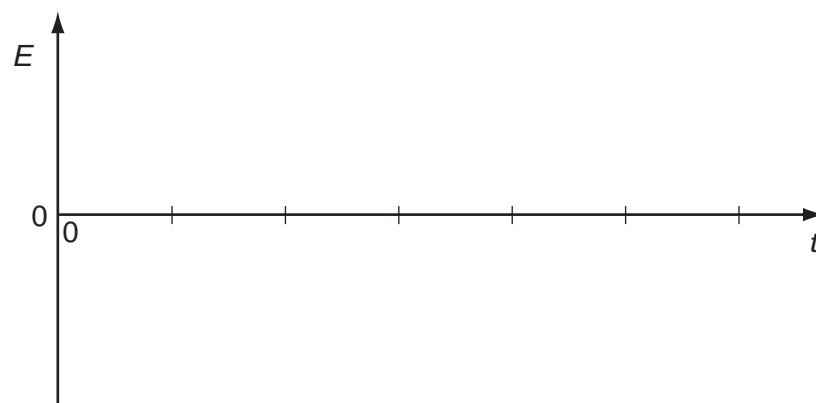

Fig. 6.4
- (ii) Complete Fig. 6.4 to show the variation with time t of the e.m.f. E induced in the secondary coil. [2]